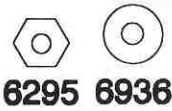

**Fig. 105**
**Fig. 105** Working with the same bag #6-11 we will repeat the above steps for the front shocks. Use the #6494 short green front springs when you get to the point of installing the springs on the shocks. Again your catalog will list additional springs which will allow the driver to try different suspension settings for different track conditions. Set the spacing between the spring clamp collar and the body hex nut at the same 3/8"